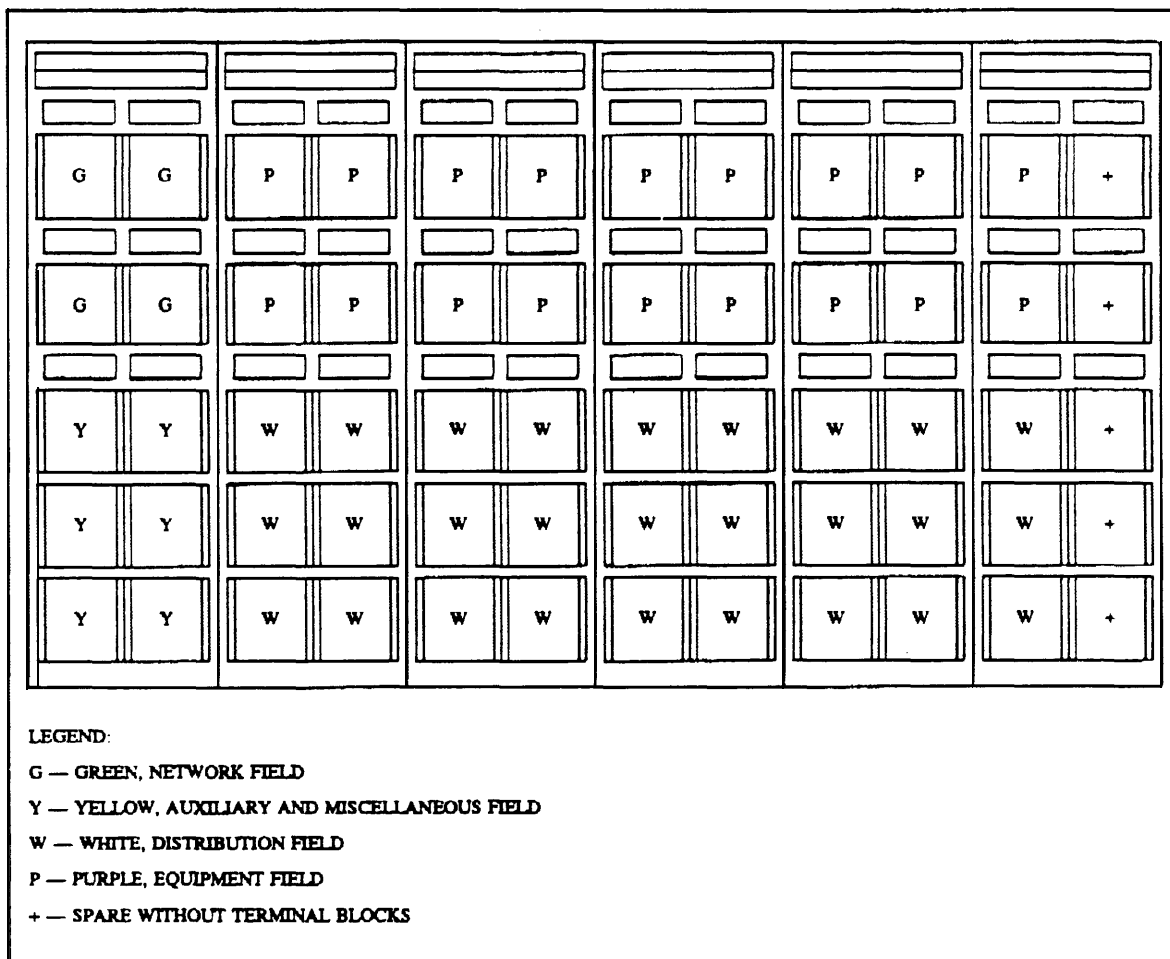

Figure 2-7. Combined Trunk and Line Ports
**Port Fields and Short Jumper-Wire Lengths.** For most installations, combine the line and trunk fields to accommodate the universal port carrier, as shown in figure 2-7, *Combined Trunk and Line Ports*.